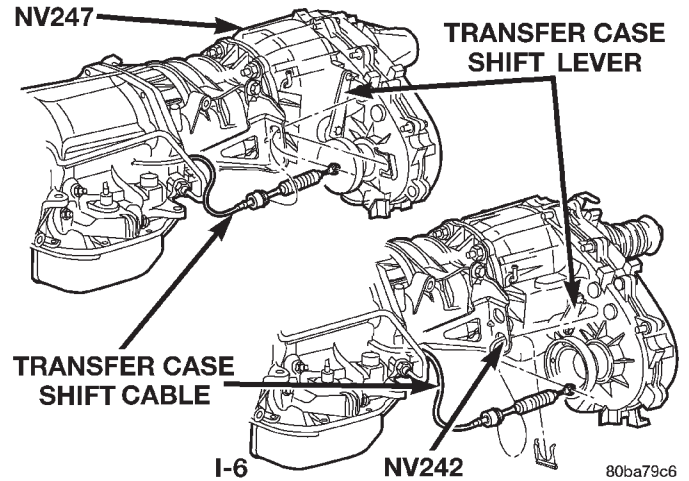
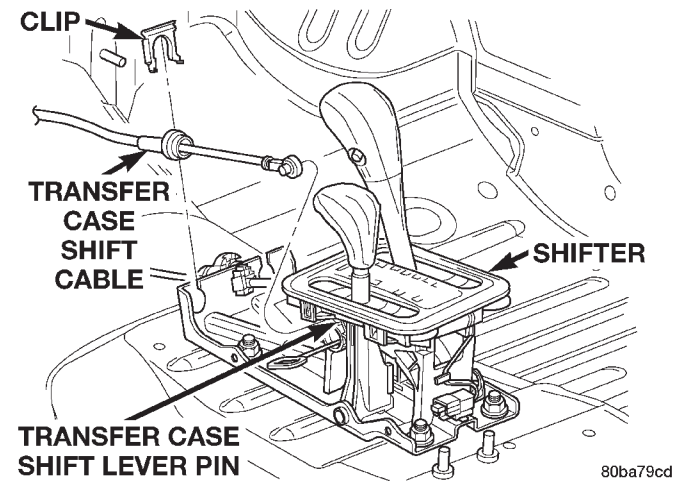

Fig. 7 Transfer Case Shift Cable at Transfer Case
Fig. 8 Transfer Case Shift Cable at Shifter
- (1) Shift transfer case into neutral.
- (2) Raise vehicle.
- (3) Disconnect the shift cable eyelet from the transfer case shift lever (Fig. 7).
- (4) Remove shift cable from the cable support bracket.
- (5) Lower vehicle.
- (6) Remove shift lever bezel and necessary console parts for access to shift lever assembly and shift cable.
- (7) Disconnect cable at shift lever and shifter assembly bracket (Fig. 8).
- (4) Install the transfer case shift cable to the shifter assembly bracket. Seat cable in bracket and install clip (Fig. 8).
- (5) Verify the transfer case shift lever (at console) is in the NEUTRAL position.
- (6) Snap the cable onto the shift lever pin (Fig. 8).
- (7) Raise the vehicle.
- (8) Install the shift cable to the shift cable support bracket and install clip (Fig. 7).
- (9) Verify that the transfer case is still in the NEUTRAL position.
- (10) Snap the shift cable onto the transfer case shift lever (Fig. 7).
- (11) Lower vehicle.
- (12) Verify correct transfer case operation in all ranges.
- (13) Install shift lever bezel and any console parts removed for access to transfer case shift cable.